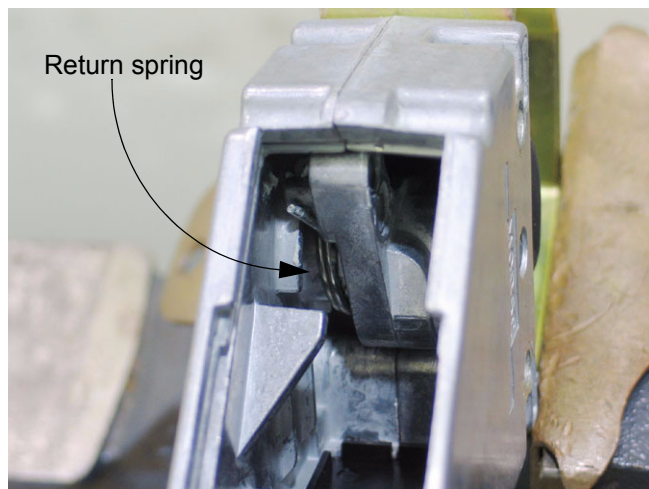

Figure 4.12
- 4.12. Within the housing for the shifter control there is a torsion spring that returns the shift lever to the center of its travel. There is not a detent mechanism in the shifter control. See Figure 4.12.